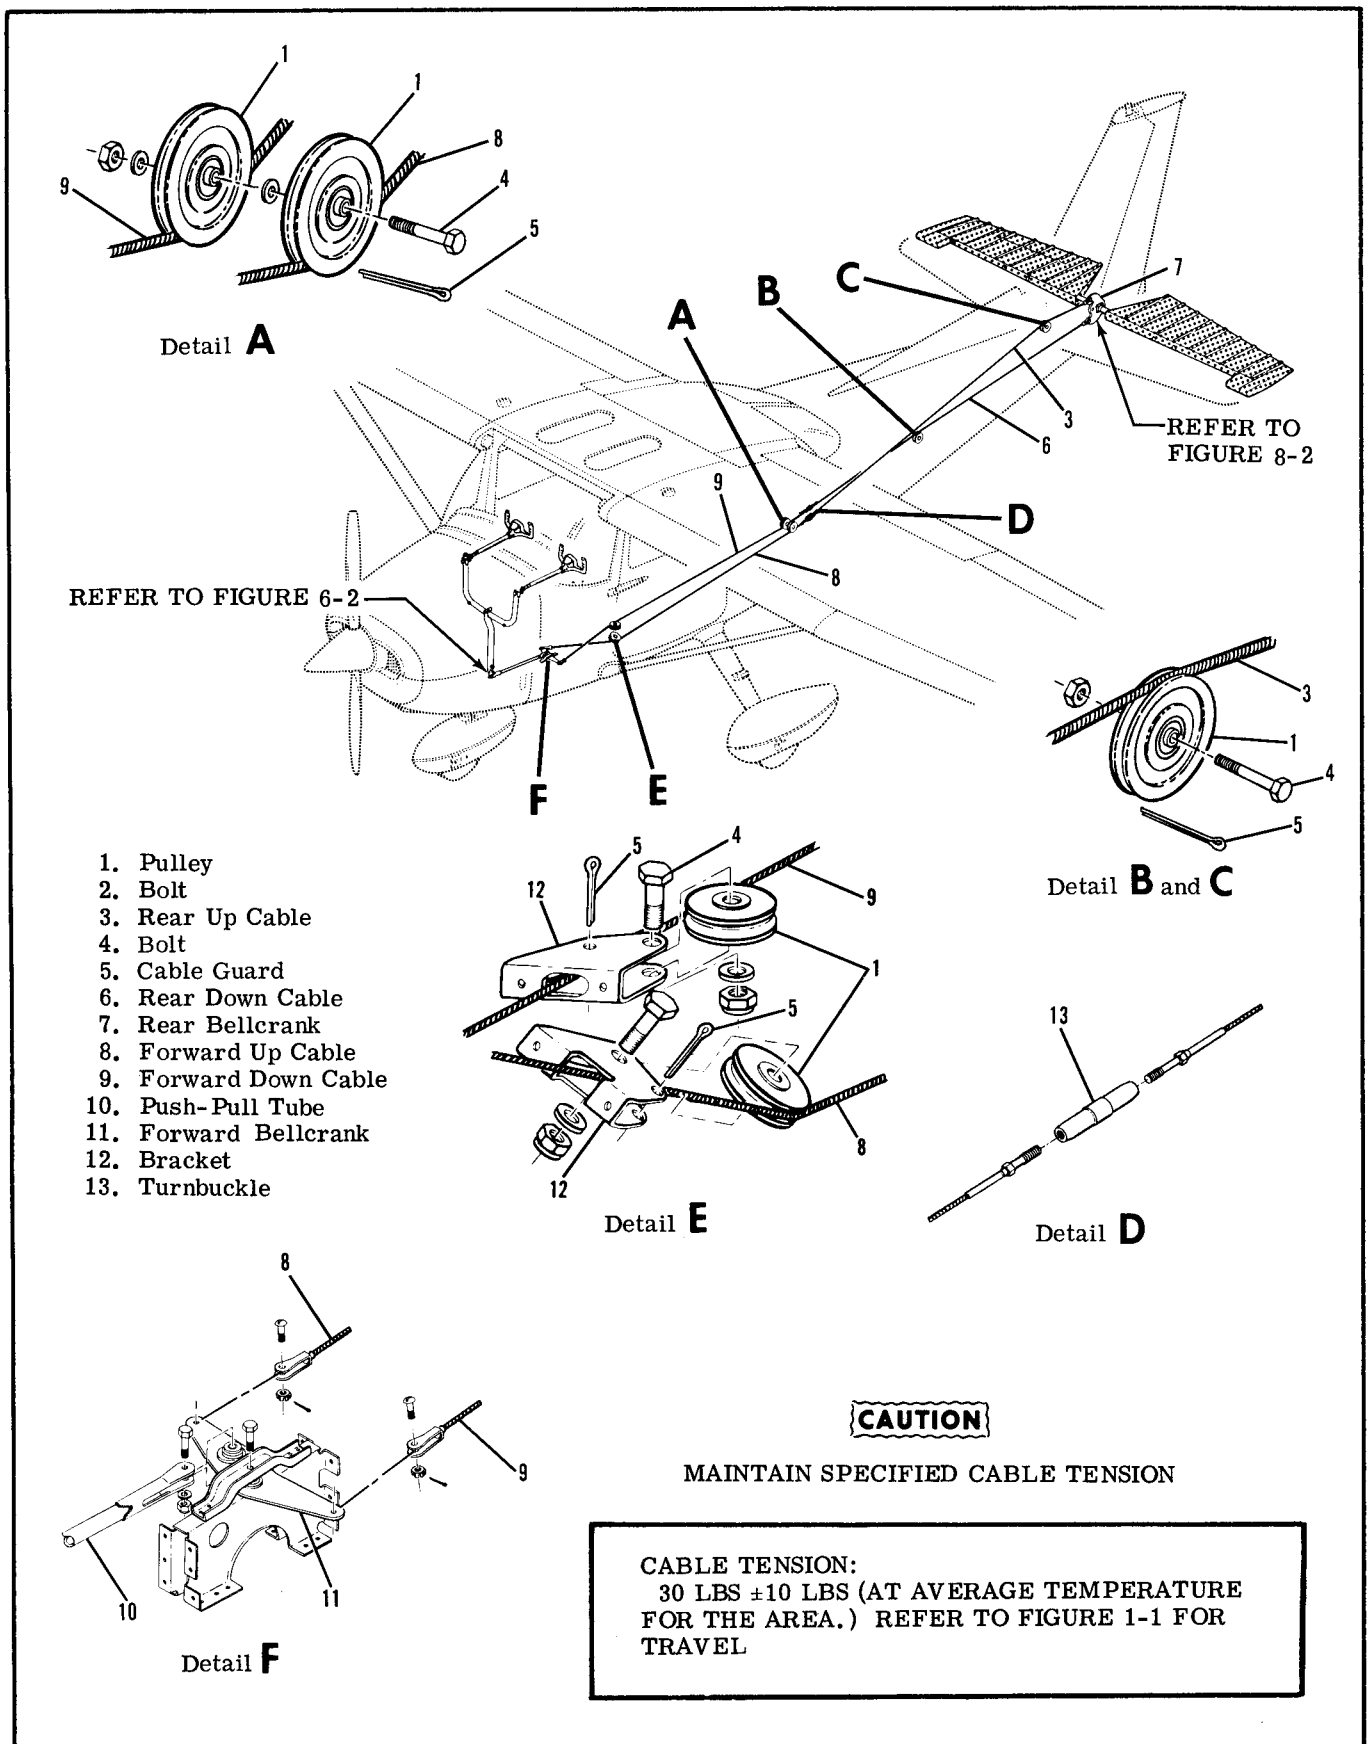

Figure 8-1. Elevator Control System
Cables slack.	Check tension and adjust to tension specified in figure 8-1.
8-8. FORWARD. (Refer to figure 8-1.)
- b. Relieve cable tension at turnbuckles (index 13, figure 8-1) and disconnect cables from rear bellcrank (9).
- c. Remove bolts (6) securing elevators to bellcrank.
- d. Remove bellcrank pivot bolt (8) and slide bellcrank from between tube assemblies (7).
8-12. CABLES AND PULLEYS. (Refer to figure 8-1.)
#### 8-14. RIGGING. (Refer to figure 8-1.)